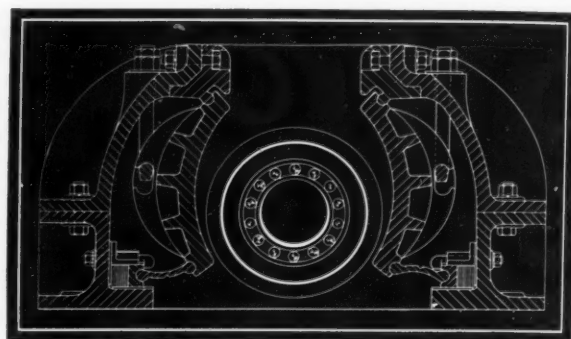

Fig. 5—Crusher depicting roll which operates against concave plates by rapid gyrocentric motion
**E**MPLOYING eccentricity to obtain compression, engineers have accomplished striking results. A gyrocentric crusher has been produced which embodies a somewhat similar principle to that used in a number of blowers and refrigerating units. The machine, built by the Patterson Foundry & Machine Co., East Liverpool, O., has only one moving part, a manganese roll, as shown in Fig. 5. The roll, by rapid gyrocentric motion, operates against concave crushing plates. Two are used, one at each side, to increase the productivity of the unit.